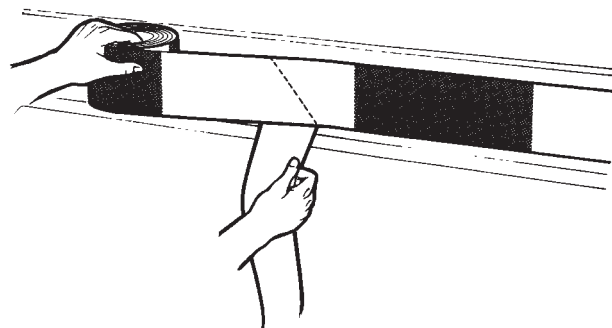

Figure 2
3. Firmly hold 2-3 feet (arms length) of marking in position against the surface with your left hand. Slowly remove the liner from the back with your right hand by pulling down on the liner. Do not lose alignment. Removing liner from the marking before aligning will cause preadhesion and misalignment (Figure 2).